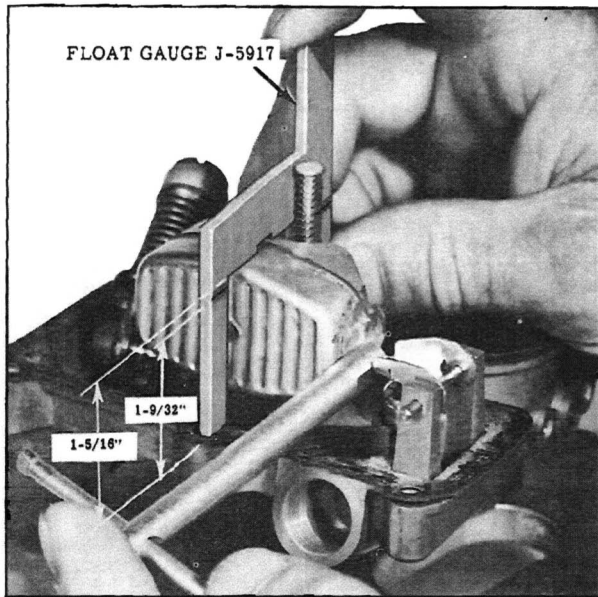

Fig. 32 Checking Float Level
- Place gauge J-5917 so it rests against the pump. Side of the power piston shaft with outer leg in line with center of float as shown in Fig. 32.